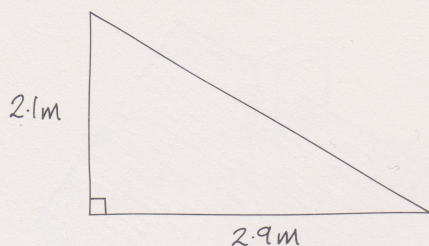

FIGURE 27 A triangle to calculate the length of the rafters.
- If the measurements of the triangle are as those in Figure 27, calculate the rafter length.